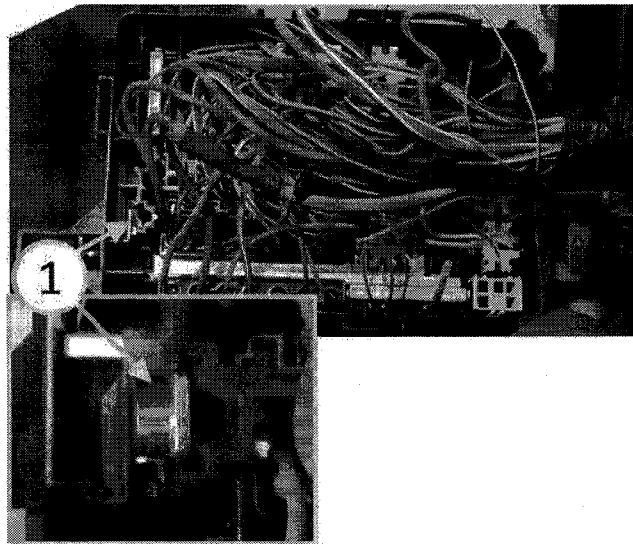

Fig. 7 Install Buss Nut
20. Install the buss nut provided in the repair kit into the slot above the buss with 5m hole, see (Fig. 7).